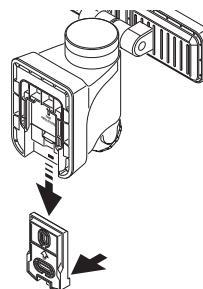

Figure 2
- Press the bottom tab of the wall mounting plate and slide the mounting plate from the light body (see Figure 2).